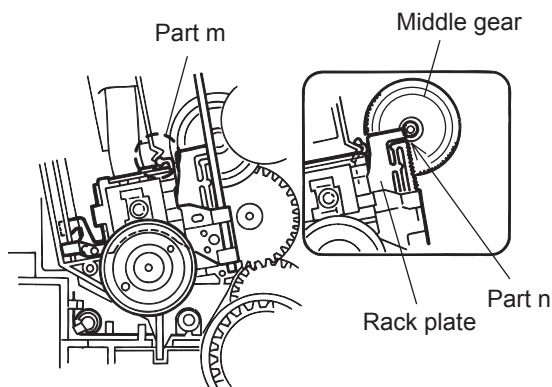

Fig.16
- (1) Fit the P.S. spring and rack plate to the pickup.
- (2) Insert the shaft into the pickup.
- (3) Engage the hook **k** of the pickup assembly with the CH. base assembly first, and set the part **j** of the rack plate in the opening **l** next. Then, reinstall the pickup assembly while shifting it to the T-T side (inward) so that the part **m** of the rack plate is positioned as shown in Fig. 16.
- (4) Move the pickup assembly to the center position and fasten the shaft with the two screws **D**. (Make sure that the part **n** of the rack plate is correctly engaged with the middle gear.)
- (5) After passing the flexible wire coming from the pickup through the opening of the CH. base assembly, connect it to the connector CN601.
2.4.8.1 Removing the Insulators (See Fig.16)